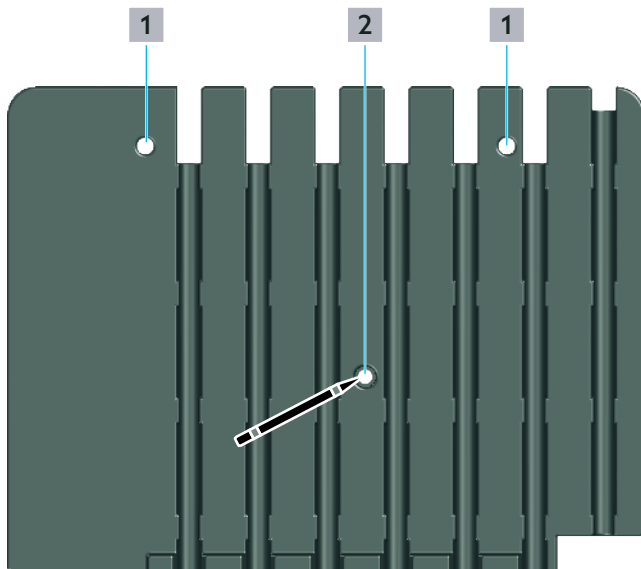

Fig. 7: Hanging up the insulation
- 2 Mark the fixing point for the dowel screw with a pen (position **2** in Fig. 7 on page 17).
- 1 Place the spacer (position **3** in par. 6.1 on page 16) into the recess for dowel screw (position **2** in Fig. 7 on page 17).